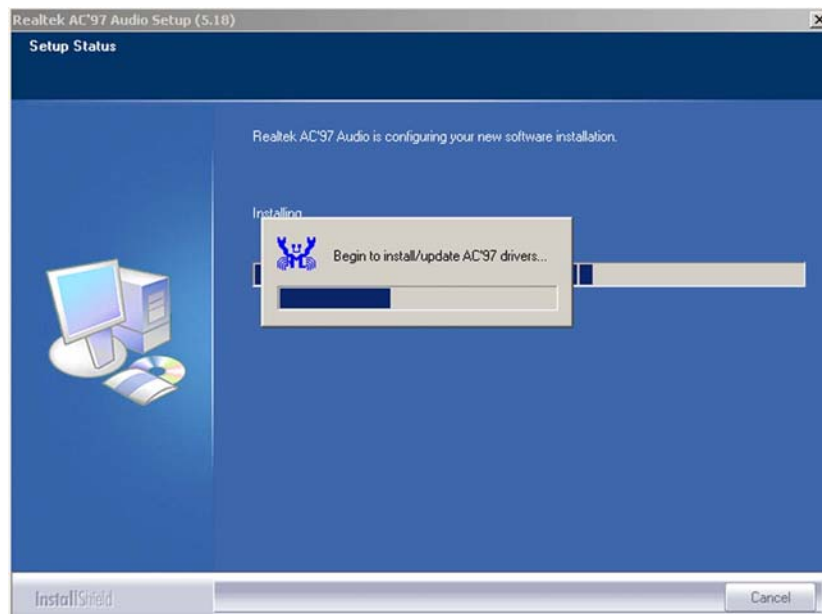

Figure 6-25: AC`97 Audio Driver Installation Begins
Step 8: After clicking the “YES” button in Figure 6-24, the installation of the driver begins (Figure 6-25).